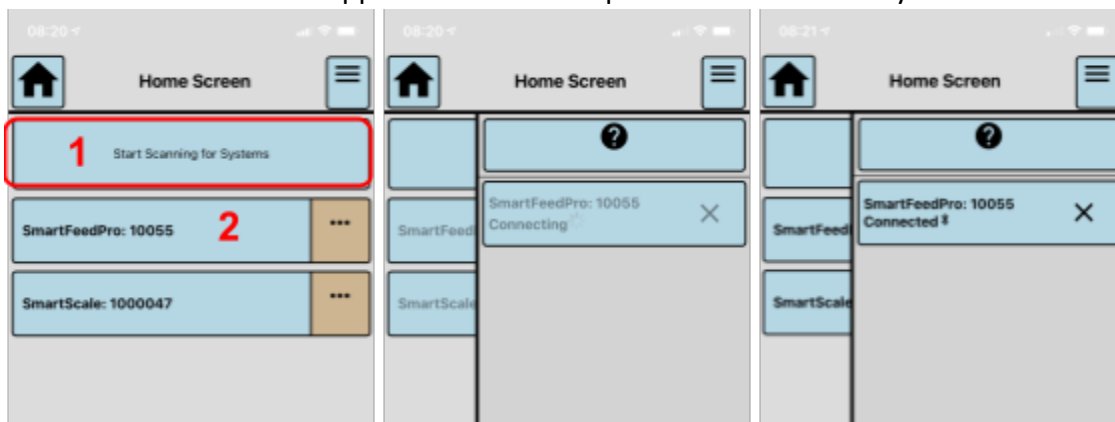

Figure 12) Scanning and Connecting to a SmartFeed System
2. A list of nearby devices will appear on the screen. See Figure 12.